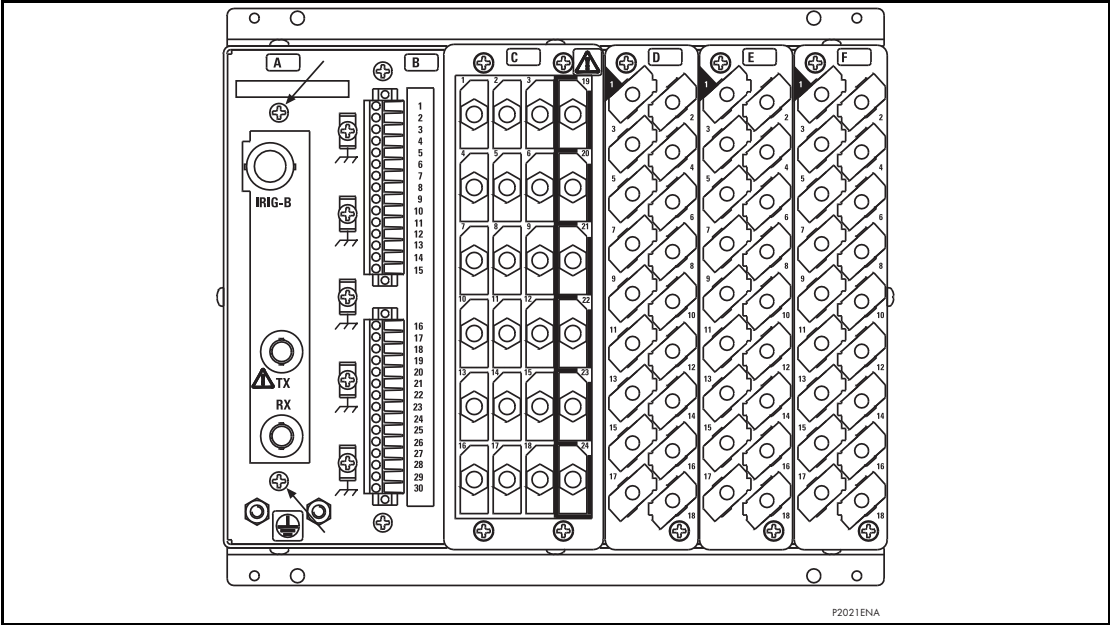

Figure 3: Location of securing screws for IRIG-B board
2. The board is secured in the relay case by two screws accessible from the rear of the relay, one at the top and another at the bottom, as shown in Figure 3. Remove these screws carefully as they are not captive in the rear panel of the relay.